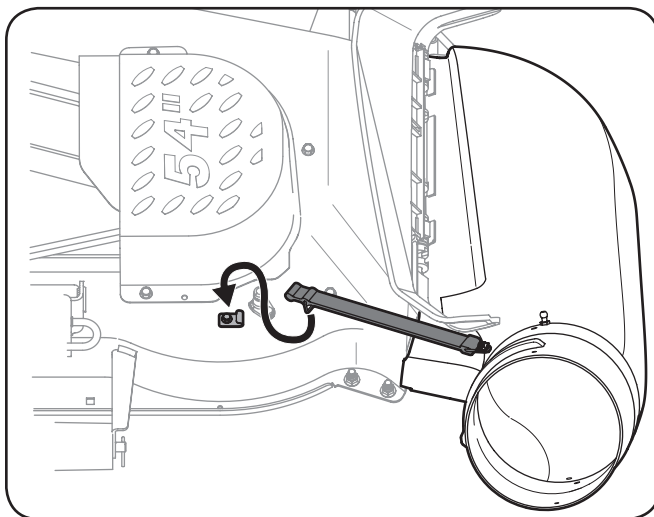

Figure 4-25
6. Attach the retainer strap on the discharge chute to the retainer clip on the deck. Refer to Figure 4-25.
IMPORTANT: If the retainer clip is not present on the mowing deck, on some units, one has been included with hardware pack 689-00326. Attach the retainer hook (96606) with a self-tapping screw factory installed in the deck in the position noted in Figure 4-25. Remove the screw in the deck and reinstall with the retainer hook.